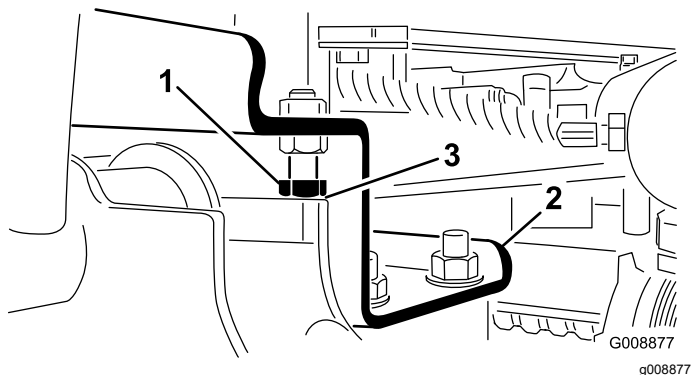

Figure 12
A. Back off the stop bolts (Figure 12).
2. Check to make sure that the clearance between each lift arm and stop bolt is 0.13 to 1.02 mm (0.005 to 0.040 inches) (Figure 12). If the clearance is not in this range, adjust the stop bolts to attain clearance.